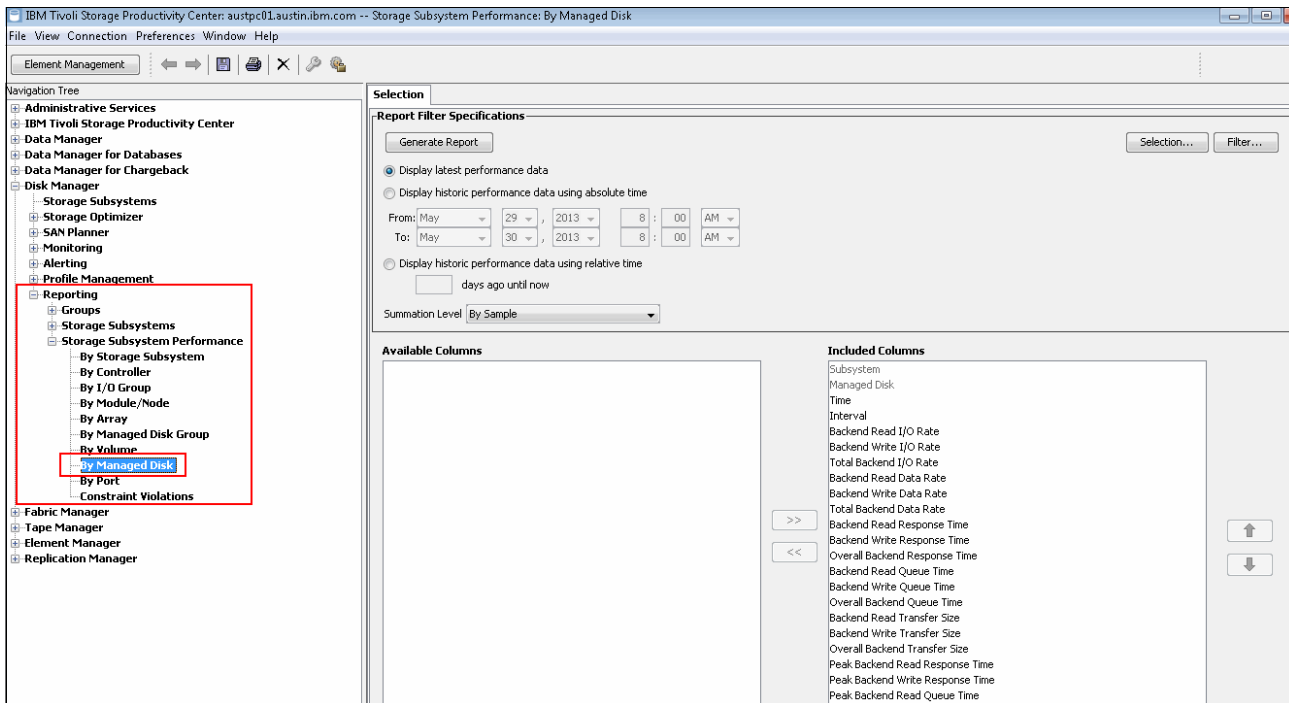

Figure 11-94 Managed disk performance report filter specification
- To check the MDisk performance, click **Disk Manager** → **Reporting** → **Storage Subsystem Performance** → **By Managed Disk**. You see many options to include in the wizard to check MDisk performance, as shown in Figure 11-94.